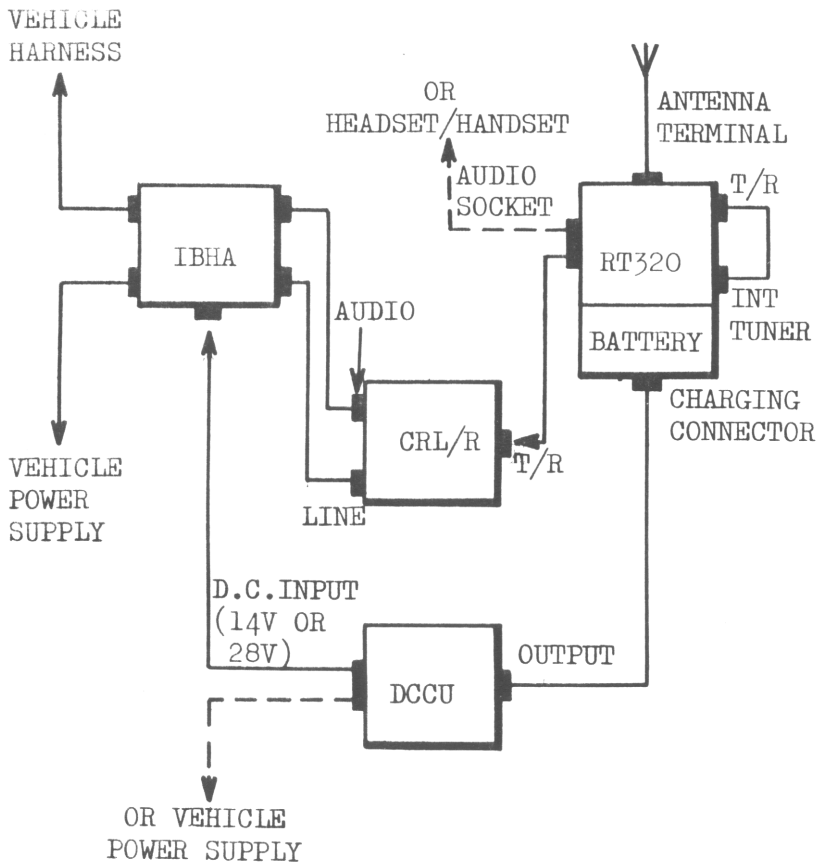

Fig.21 Vehicle Harness Interface
3.2 The RT320 is normally mounted on its carrier, which is secured to a mounting frame installed in the vehicle by means of clips, and connected via its antenna terminal to the vehicle whip antenna. The equipment can be connected directly to a headset or handset via an audio socket, as in the manpack role, or into the vehicle harness (28V vehicles only) via a control, radio set, local/remote (CRL/R) and inter-connecting box, harness adaptor (IBHA), as shown in block diagram form in Fig.21. The battery is normally float-charged by either a 14V or a 28V input d.c. charging unit (DCCU), depending on the vehicle electrical supply. Under no circumstances is the RT320 to be powered directly by the vehicle electrical supply as damage would result from so doing.